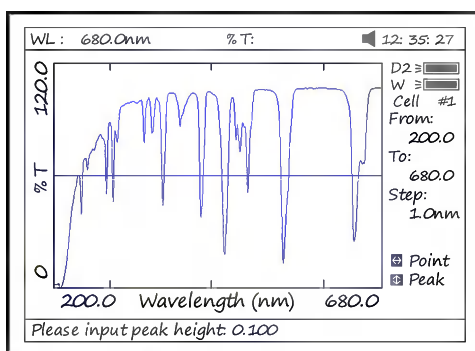
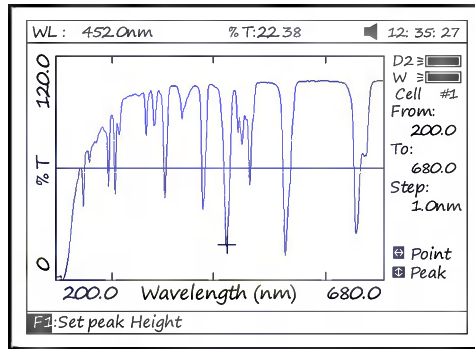

Fig 50
Fig 51
- 1) **Peak to peak**, press **【F1】** to set “peak height” and input value by pressing the numeric keypad (Fig 50). Press **【^】** to search the peak from left to right and press **【v】** to search from right to left. The value of every peak found will be displayed on the screen one at a time (Fig 51).